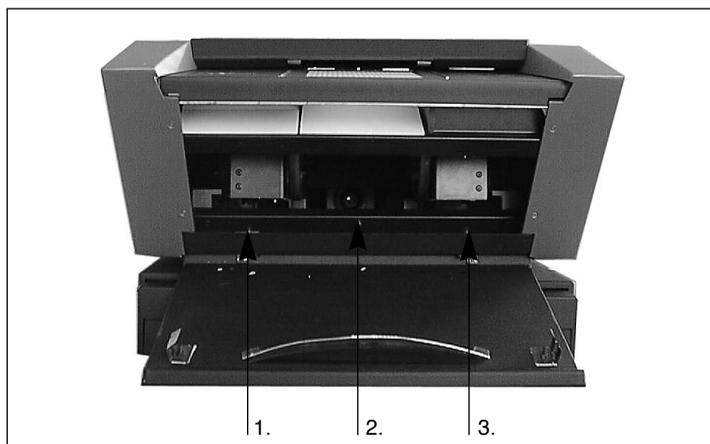

Figure 12: Front screws for securing the reflector panel.
5. Remove the three allen screws indicated in Figure 12. This will release the reflector panel. Remove the reflector panel. Be careful not to scratch or leave fingerprints on the reflector.